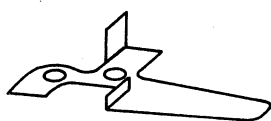

Fig. 75.1
- 4.2 The two protruding tags of the plate washer 42 531-673 must be bent upwards at right angles with a pair of tweezers (see Fig. 75.1).